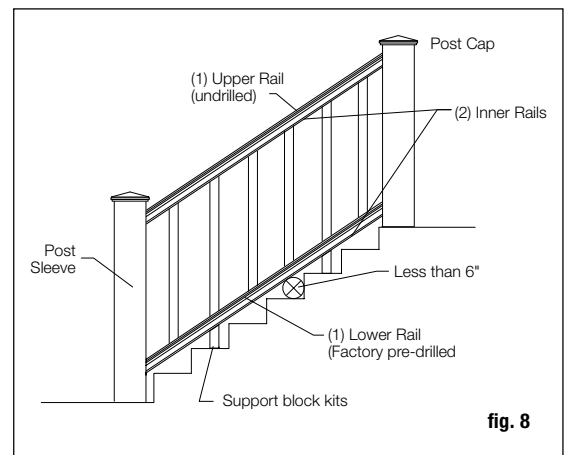

fig. 8
Step 6 Assemble the lower inner rail and support block assembly. Position the bottom rail between the posts. Check building code requirements for maximum spacing on a staircase, typically less than 6". A 6" ball cannot pass through the triangle formed by the bottom rail, tread and riser (fig. 8). A support block is needed every 2' on-center. Trim support blocks to desired height and pre-drill 1/8" holes in the proper location. Holes must be centered on the inner rail for support blocks to fit properly. Using the support block connectors, fasten support blocks to the underside of the inner rail.